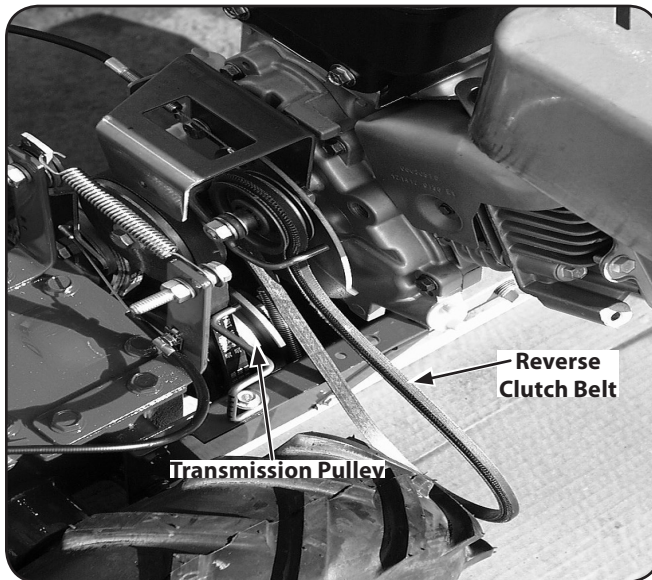

Figure 7-1
3. Move the reverse clutch belt out of the way. You do not need to completely remove the belt. Press the reverse idler pulley inward for slack and then slip the bottom half of the belt completely off the transmission pulley. Pull the bottom half of the belt out of the housing and let it hang off the outside of the tiller. See Fig. 7-1.